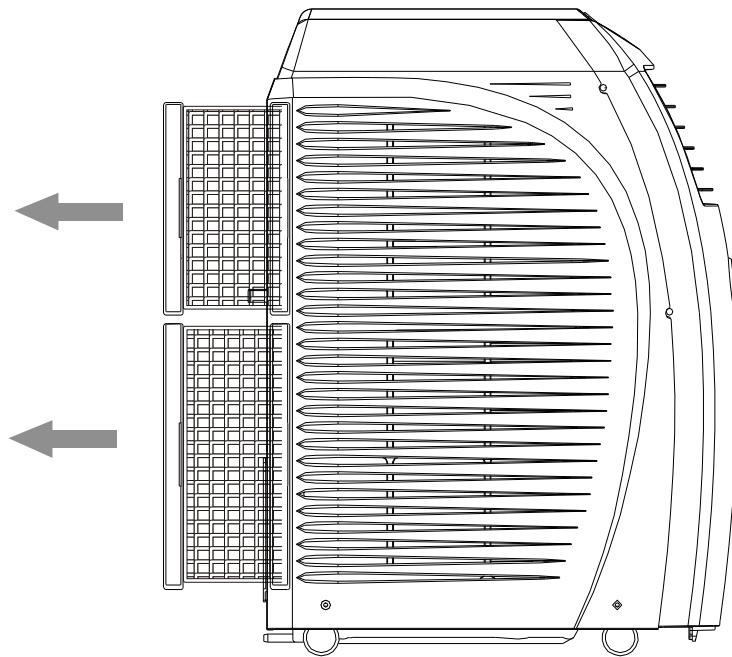

Fig. 21
- Slide out the air filter from the side as shown in Fig.21.